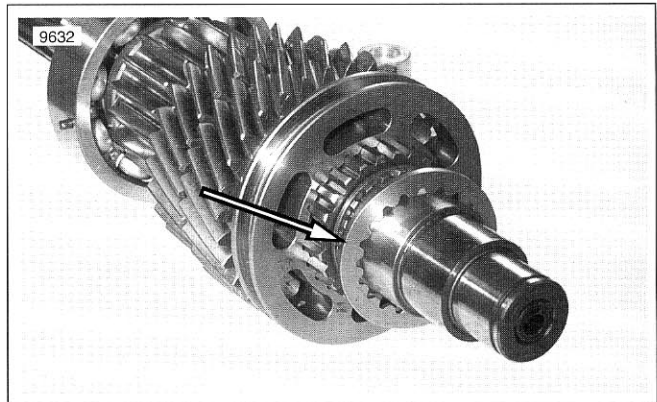

**Figure 7-40. 2nd and 5th Gear Removal**
- See Figure 7-40. Place a puller clamp behind 5th gear and press off 2nd and 5th gear. Support the input shaft when removing the gears.